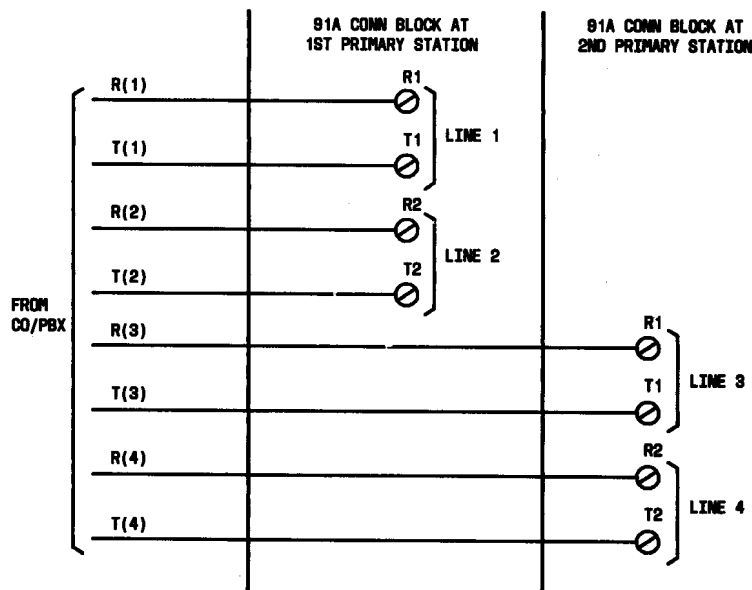

Fig. 41—CO/PBX Line Connections
(a) **Common Lines 1-4**—Using inside wire, connect the E1C to the primary station 91A block associated with the line where external ringing is required (Fig. 41). Connect terminals 5 (ring) and 6 (tip) of the ringer to the R and T screw terminals, respectively, where the CO/PBX lines are terminated. *Do not attempt to wire the ringer to any other pairs in the system.*
3.61 **Common CO/PBX Lines**—Terminate the incoming common CO/PBX lines 1 and 2 on the 91A connecting block associated with the first primary station (Fig. 41). Terminate lines 3 and 4 on the 91A block associated with the second primary station.